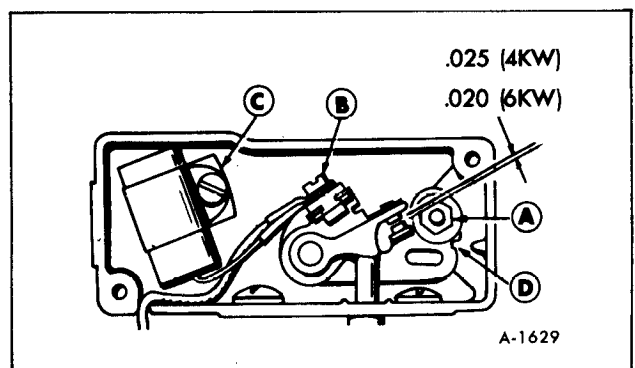

Figure 39—Breaker Point Adjustments
3. Refer to Figure 39, remove mounting nut (A) and pull the points out of the box just far enough so screw (B) can be removed and leads disconnected.
4. Remove screw (C) and replace condenser with a new one.
5. Replace points with a new set but do not completely tighten mounting nut (A).